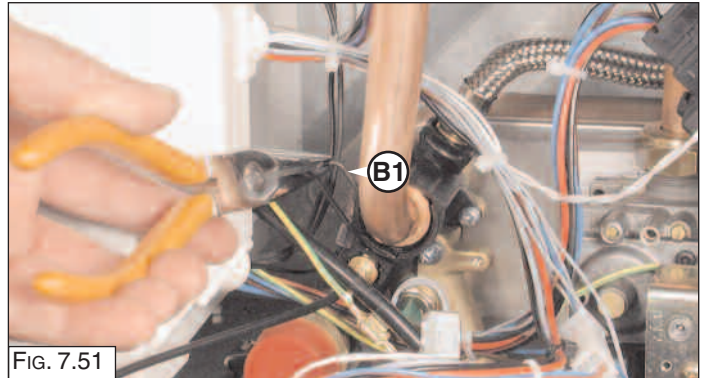

FIG. 7.51
1. Release U-clip "B1" (FIG. 7.51 - 7.52);